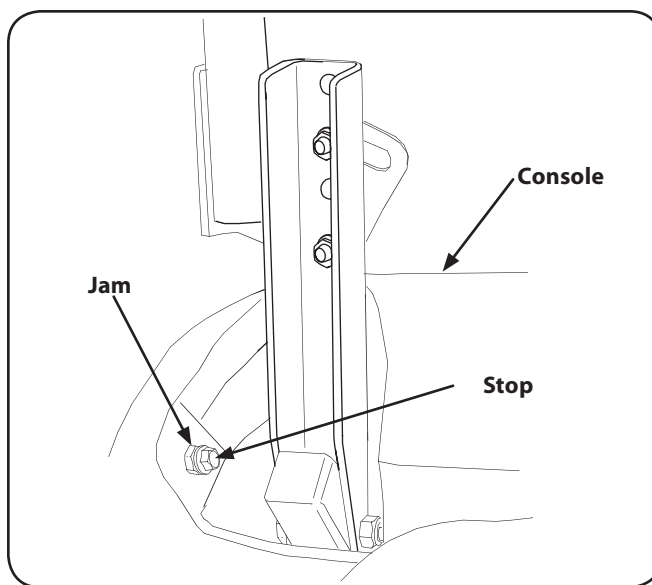

Figure 7-9
5. Locate the applicable stop bolt on the left or right console. See Figure 7-9.